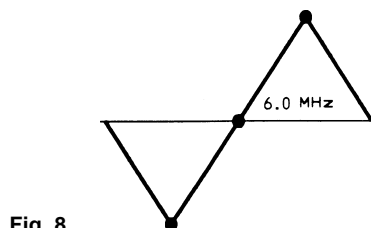

Fig.8
- 1. Adjust the output of Sweep Generator until a similar waveform is obtained (Fig.8).
- 2. Adjust T104 to obtain the marker 6.0MHz rested on the horizontal line (Fig.8). NOTE: Input Level = 90dB.